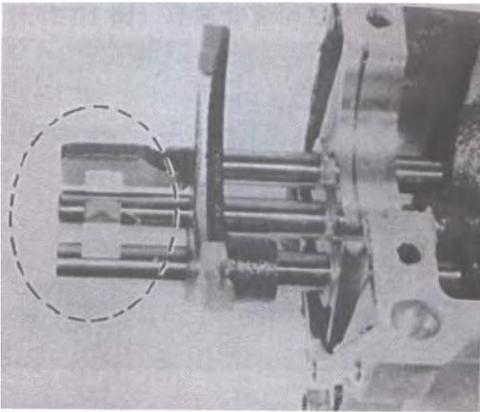

Fig 10-37
Before starting removal, make sure that all shift fork shafts in place are in neutral position and remove each fork and shaft according to following steps (1) , (2) , (3) .(FIG.10-37)